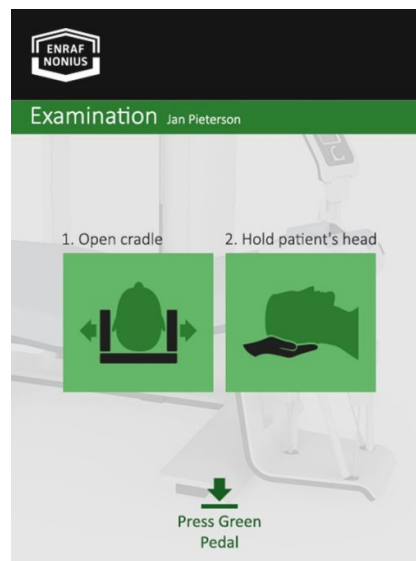

Fig. 62
- Open the Cradle, take the head of your patient in both hands (fig. 62) and confirm by pressing the green pedal.